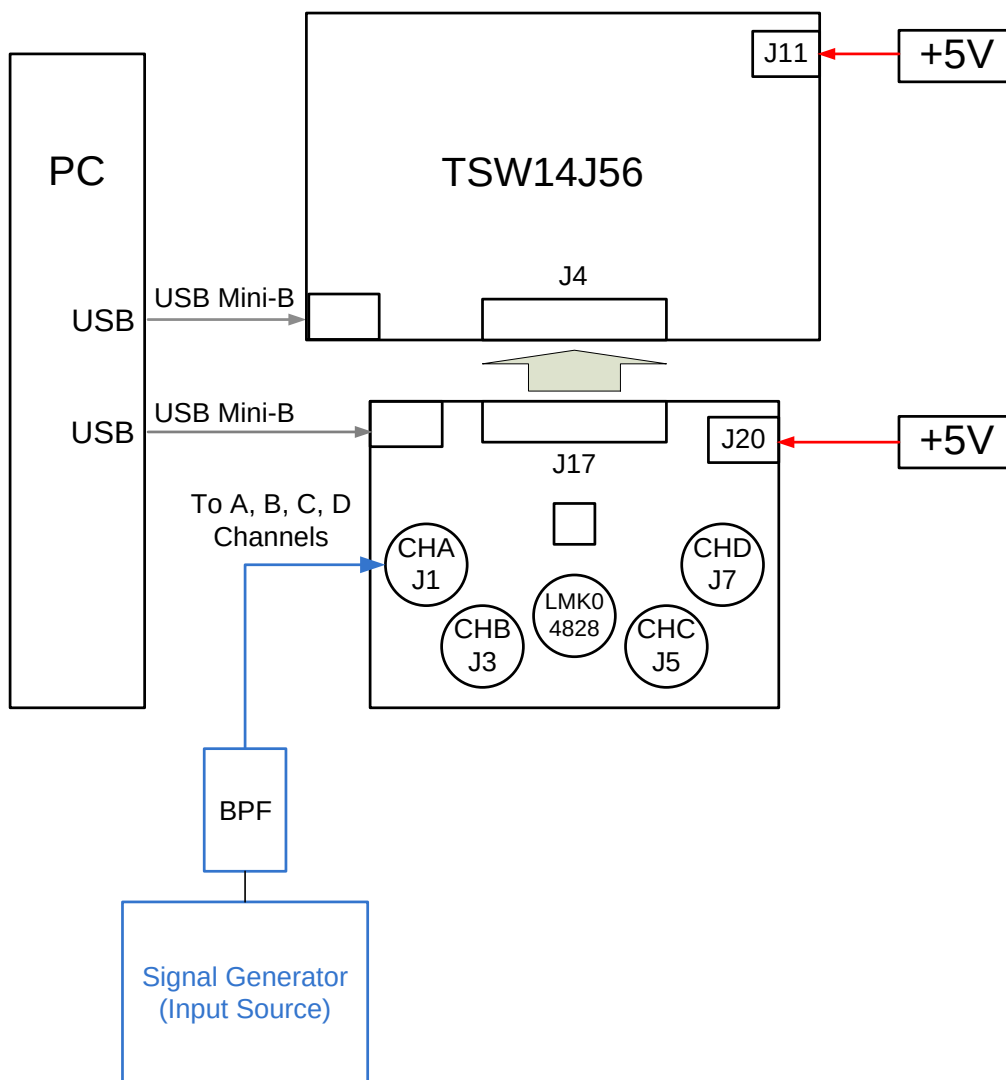

Figure 18. ADC32Jxx/ADC34Jxx and TSW14J56 Test Setup Block Diagram
The test set-up for evaluation of the ADC32J/34Jxx EVM with the TSW14J56 or TSW14J50 Capture Card is shown in Figure 18. As seen in this figure, the evaluation setup involves a clock from a high quality on board clock chip LMK04828 and a sine wave for the analog input from a high-quality signal generator. High order, narrow bandpass filters are usually required to remove phase noise and harmonic content from the input sine waves. Since the on board clock and input sinewave are not coherent then the resulting FFT will need to have a windowing function such as Blackman-Harris/Hamming/Hanning applied to the data.
6. Enter the ADC32J/34Jxx sampling rate. The example shown in Figure 18 has the sample rate set at 160 MSPS.
7. Enter the input frequency desired. The example shown in Figure 18 has the filtered input frequency set at 10 MHz and around 10 dBm. Adjust to achieve –1 dBFs on the HSDC Pro FFT plot.
10. Observe an FFT result similar to that shown in Figure 18.